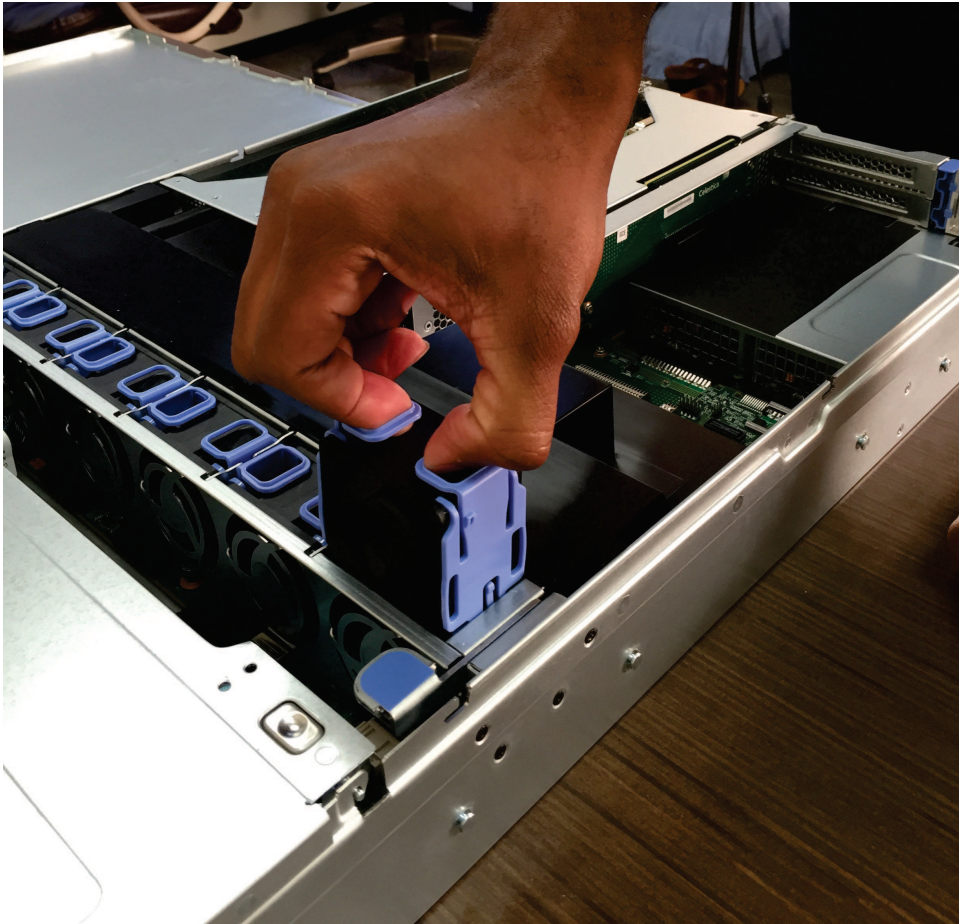

Figure 175. Removing a 2145-SV1 fan
7. Grasp the fan by the finger grips on the sides, as shown in Figure 175 on page 211.